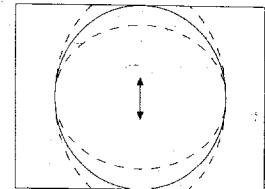

Fig. 11
- d) Adjust the horizontal location to obtain picture centering (fig. 11).